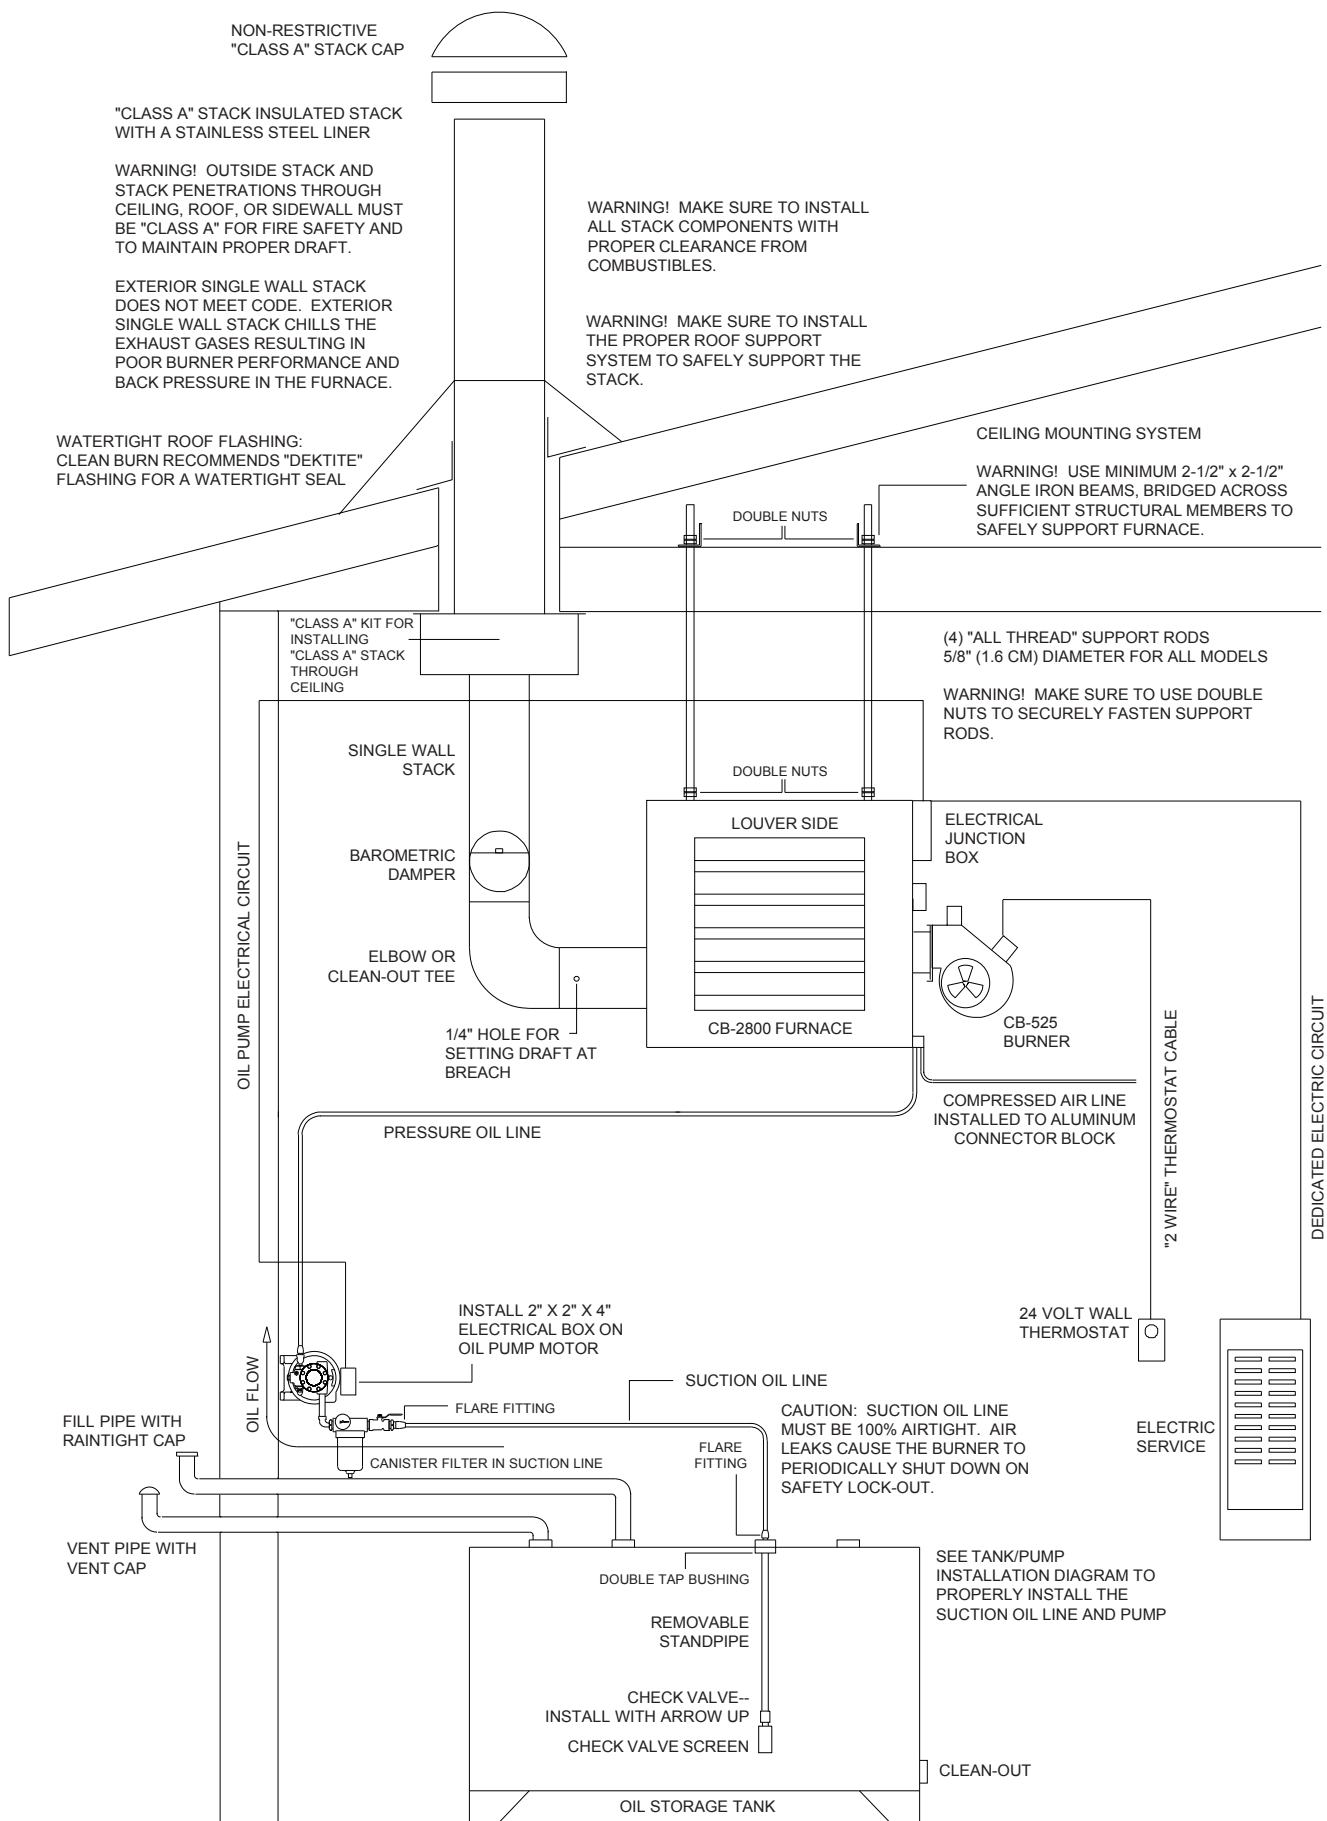

Figure 4A - Typical Furnace Installation
Clean Burn recommends that you review all procedures before beginning installation, paying careful attention to safety information statements. Figures 4A and 4B provide a general overview of typical furnace installations and should be reviewed closely before proceeding.
1. Refer to Figures 4A and 4B.